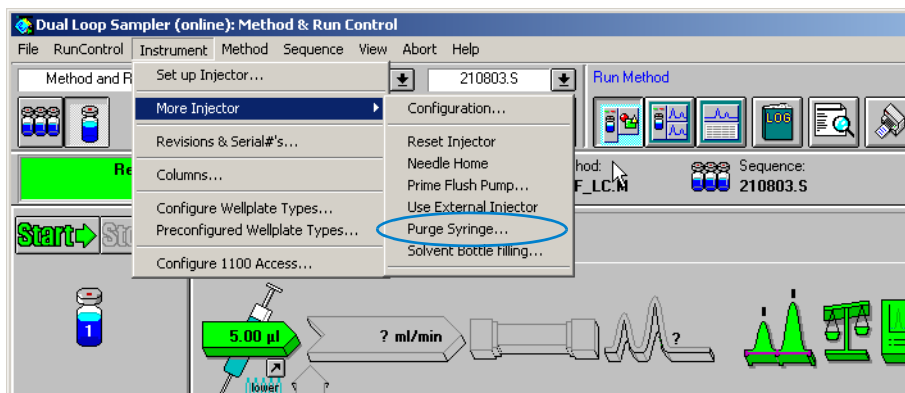

Figure 11 Accessing the Purge Syringe Command
- 1 Start purging the sampler from the *Instrument* menu of Agilent ChemStation (see Figure 11) or from **Views > System > DL Sampler > Purge > Syringe** on the handheld controller until the flush solvent has reached the inlet tubing to the metering head.